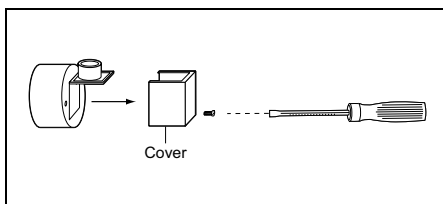

Figure 2-15 Switch Cover
Using a flathead screwdriver, remove the one (1) screw that secures the switch cover (Fig. 2-15).